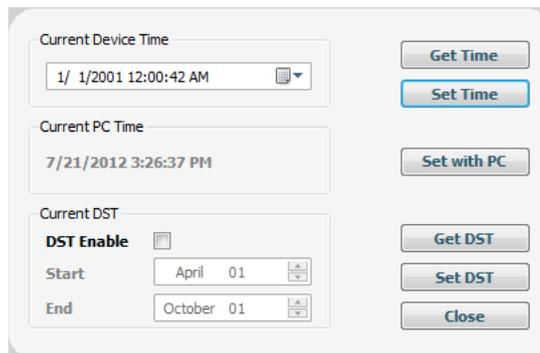

Figure 36 EndoStim Programmer Time Window
1. When the Time dialog window opens (Figure 36), click *Set with PC*.